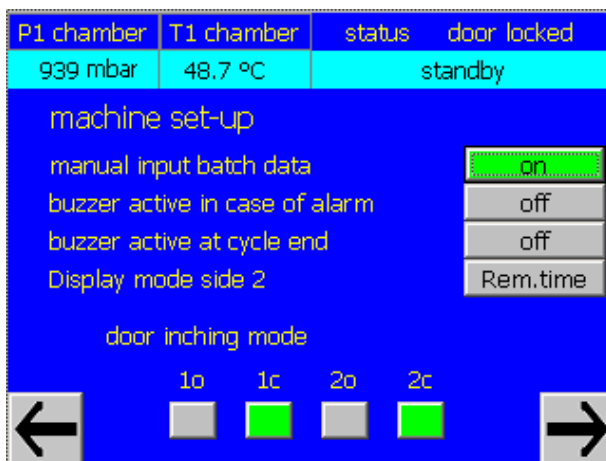

Figure 9-32: Machine set-up display 4
- The fourth display (refer to Figure 9-32) functions are: The system can request batch data before a cycle is started